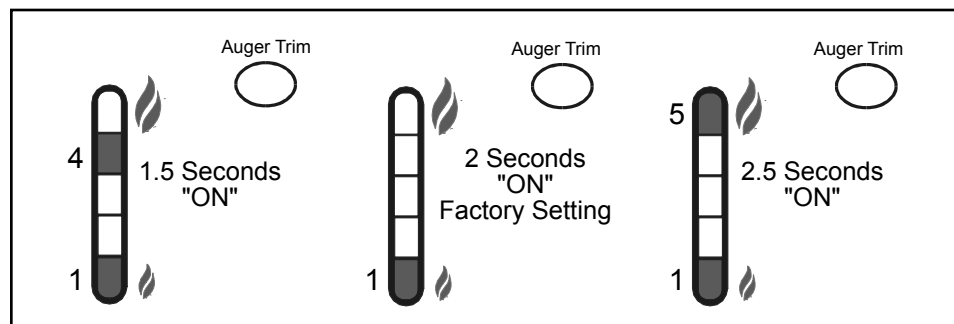

Figure 3: Auger trim and heat level indicator.
- AUGER TRIM:** Used to change feed rates on LOW ONLY for poorer quality fuels. Push the Auger Trim button until the number 1 and 5 lights appear on the Heat Level Indicator. This will increase the feed rate to 2.5 seconds ON time Auger pulse. This is done only on LOW to allow the burning of poor quality fuels. Push the button until the number 1 and 4 lights appear, this will reduce the Auger On time to 1.5 second. This setting is for high-grade fuel only. Push the button until just the number 1 light is on, this is for a 2 second ON time (standard setting). Refer to Figure 3.